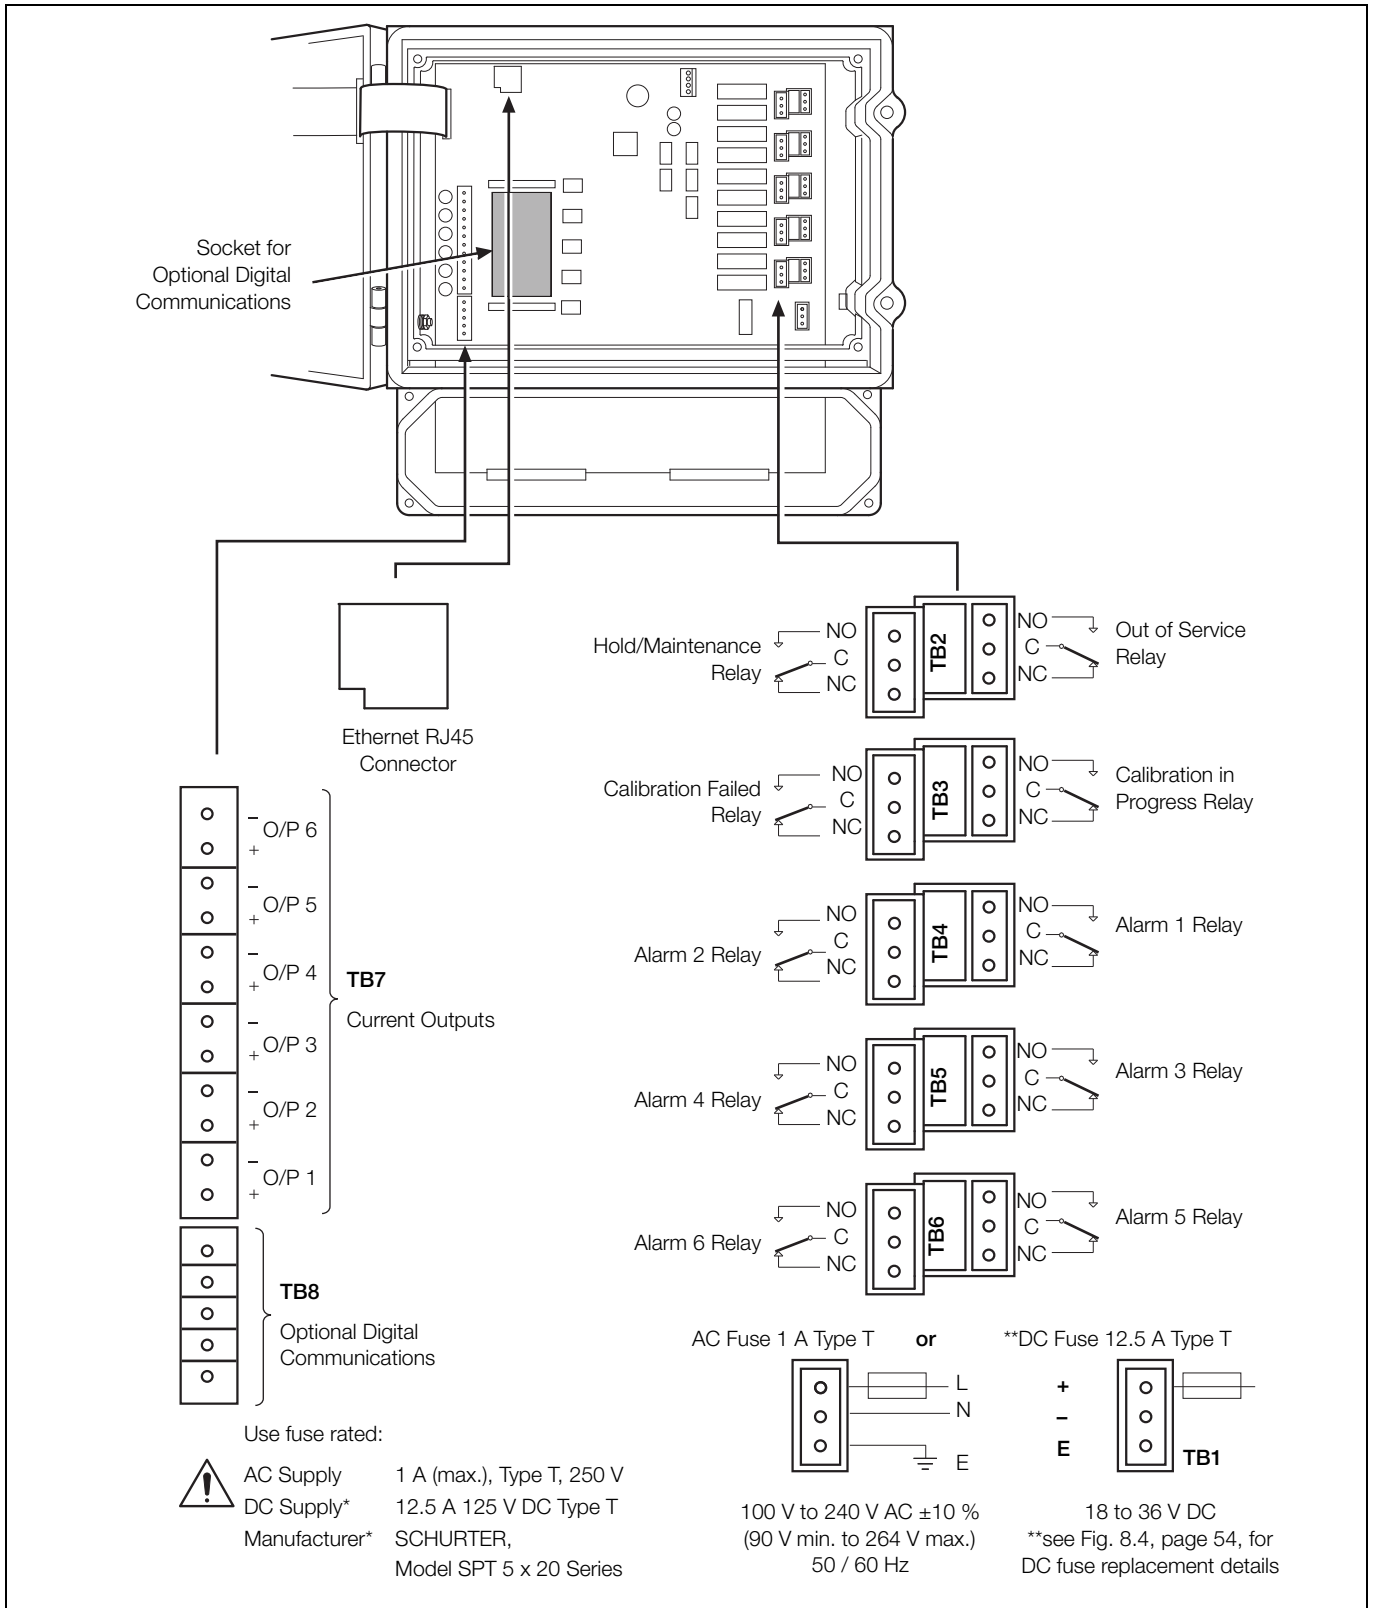
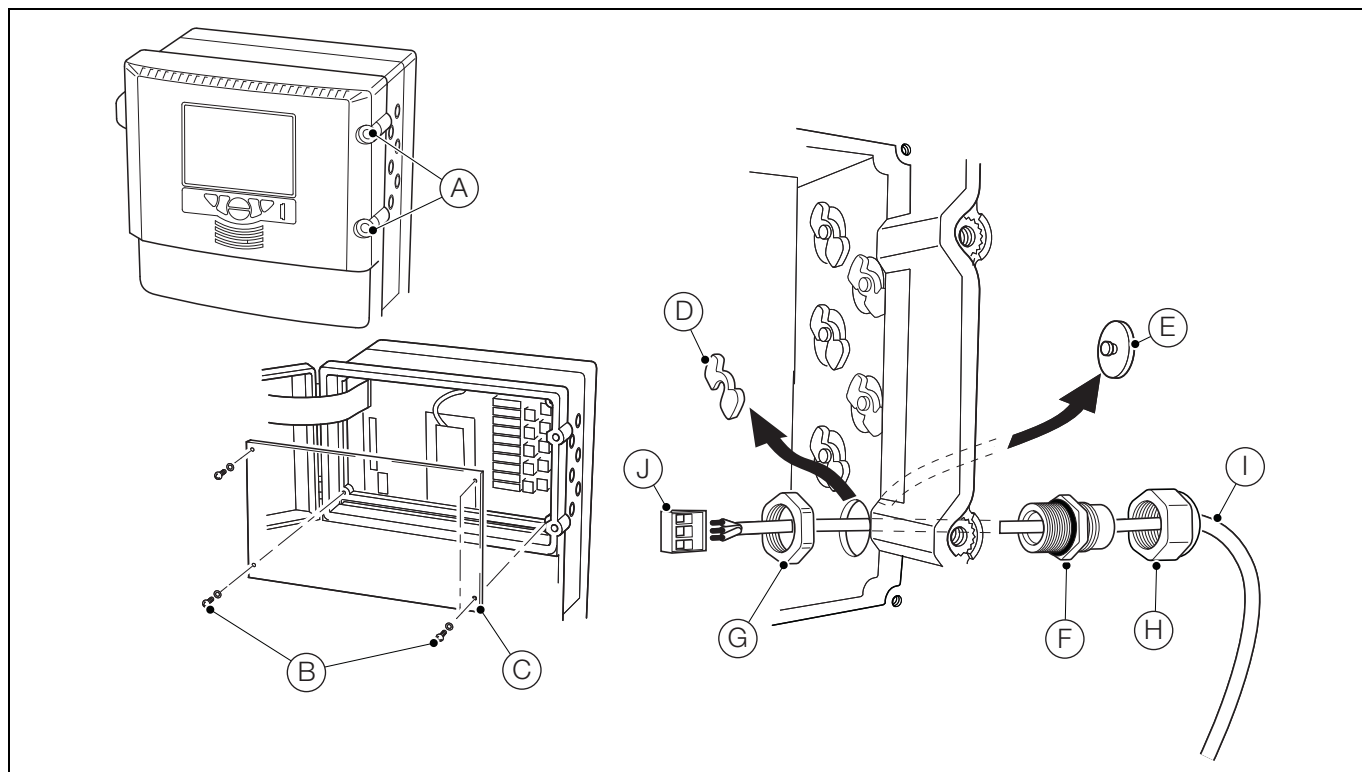
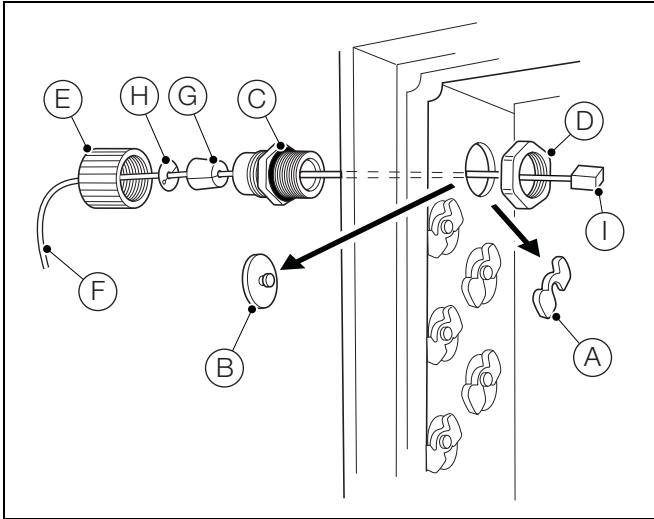

Fig. 4.8 Connections Overview
Fig. 4.9 Accessing and Making Electrical Connections
Fig. 4.10 Ethernet Connections
- Ensure the correct fuses are fitted – Fig. 4.8, page 21, for fuse details.
- Application board connection labels for the terminal blocks are identified in Fig. 4.8, page 21.
Referring to Fig. 4.9:
1. Turn door retaining screws (A) $\frac{1}{4}$ turn counter-clockwise and open the electronics section door.
2. Using a cross-head screwdriver, remove 4 screws (B) and remove transparent cover plate (C).
3. For each cable entry required, slide retaining clip (D) off blanking plug (E) and remove the plug.
4. Fit cable gland (F) and secure using nut (G).
5. Remove gland nut (H) and feed cable (I) through it.
6. Feed the cable through cable gland (F) and into the electronics section enclosure.
7. Remove each connection plug (J) and, using a small flat-bladed screwdriver, make connections to the plug. Ensure wires are connected to the correct terminals – see Fig. 4.8, page 21.
9. Tighten gland nut (H) for each connection made.
11. Replace transparent cover plate (C) and secure with 4 screws (B).
12. Close the electronics section door and turn door retaining screws (A) $\frac{1}{4}$ turn clockwise to secure.
1. Referring to Fig. 4.9:
- a. Turn door retaining screws (A) 1/4 turn counter-clockwise and open the electronics section door.
- b. Using a cross-head screwdriver, remove 4 screws (B) and remove transparent cover plate (C).
2. Referring to Fig. 4.10:
- a. Slide retaining clip (A) off blanking plug (B) and remove plug.
- b. Fit cable gland (C) and secure using nut (D).
- c. Remove gland nut (E) and feed cable (F) through it.
- d. Fit split-bush (G) and split-washer (H) to cable (F).
- e. Feed the cable through cable gland (C) and into the electronics section enclosure.
- f. Plug RJ45 connector (I) into the RJ45 socket on the application board (see Fig. 4.8, page 21 for location details) and tighten gland nut (E).
3. Referring to Fig. 4.9:
- a. Replace transparent cover plate (C) and secure with 4 screws (B).
- b. Close the electronics section door and turn door retaining screws (A) 1/4 turn clockwise to secure.